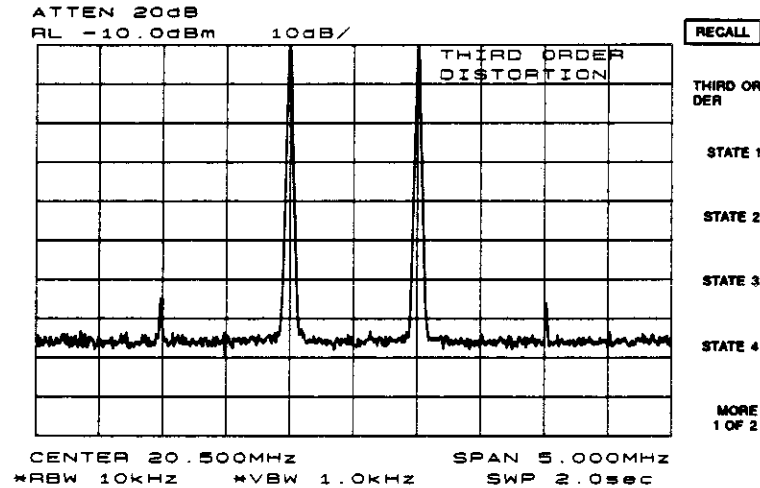

Figure 3-12. Recall menu with a previously saved title.
- To save the instrument state, press **SAVE**, then **SAVE STATE**. Then press a softkey to enter the instrument state data into whichever register (0-9) you select. The first sixteen characters of the title are used to label the register on the recall menu. To view this menu, press **RECALL** and then **RECALL STATE** (see Figure 3-12). If a stored state has not been titled, the menu reads STATE followed by the register number chosen.